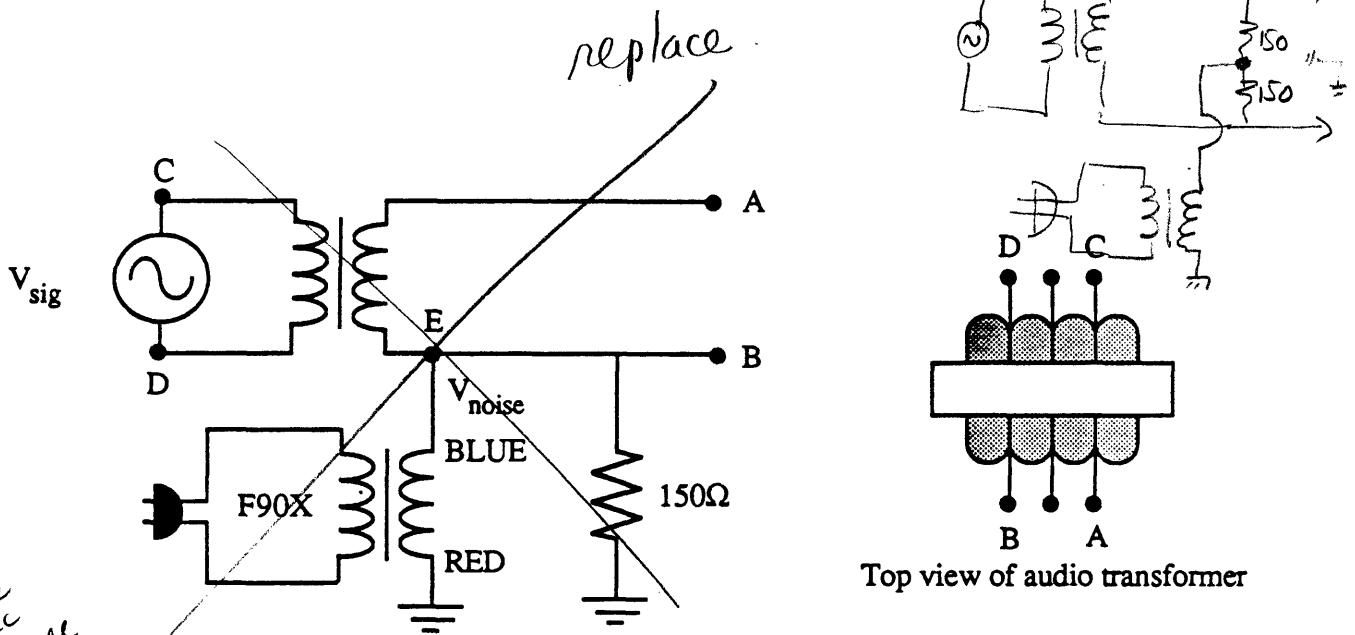

Figure 4 - Differential and Common Mode signal circuit.
- (3) Connect your DMM to point E. Connect points A and B with a jumper. Adjust R7 until your output voltage is exactly zero. Your amplifier is now ready to test.
- (4) Build the signal producing circuit shown in Figure 4 on your protoboard. The points labeled A and B will connect to the correspondingly labeled points of your instrumentation amplifier. Do NOT disassemble your instrumentation amplifier circuit. The upper transformer is your audio transformer. The second transformer is your familiar power transformer. The function of the audio transformer is to allow the signal generator output to be added in series to the output of the power transformer. Do NOT plug the power transformer in yet.
- (5) Connect the signal generator output to point C. The other side of the transformer primary should be connected to your station COM. Adjust the signal generator output to 0.2V_{p-p}, 0 volts DC at 1 KHz. Connect point A of your signal circuit to point A of your instrumentation amplifier. Connect point B of your signal circuit to point B of your instrumentation amplifier.
- (6) Connect your scope CH1 input to point A, connect the scope CH2 input to point B and record the waveform you see in Table 7.3. The signals will look almost identical. Set your scope mode to ADD and the INV CH2 switch ~~OUT~~. You should now see the signal corresponding to "A-B", the differential signal which the amplifier will see. Vary the generator output—your signal on the scope should follow the change in generator output. Measure and record in Table 7.4 the peak-peak voltage of the "differential" signal you see between points A and B. This is the input signal to your amplifier.
- (7) Disconnect the output of your signal generator from point C. Plug in the power transformer. You are now inserting a signal in series with points A and B—a common mode signal. Record the value of any 60Hz signal you see between A and B. *record these in Table 7.4*
- (8) Unplug the power transformer. Reconnect the signal generator to point A.
- (9) Remove the CH1 probe from point A. Reconnect it to point E. Change the mode switch to CH1. You are now looking at the amplifier output. Record the peak-peak ac voltage in Table 7.5.
- (10) Disconnect the signal generator from point C. Plug in the power transformer. Record any 60Hz output voltage (peak-peak) you see at point E in Table 7.5.
- (d) Explain the function of the two transformers in the signal circuit of Figure 4.